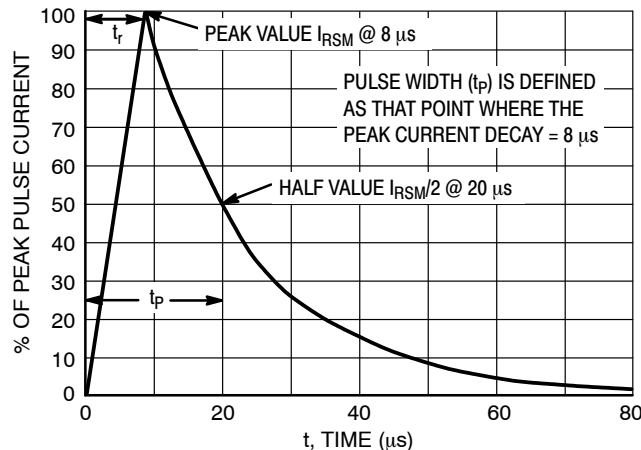

Figure 5. 8 x 20 μs Pulse Waveform
1. Surge current waveform per Figure 5.